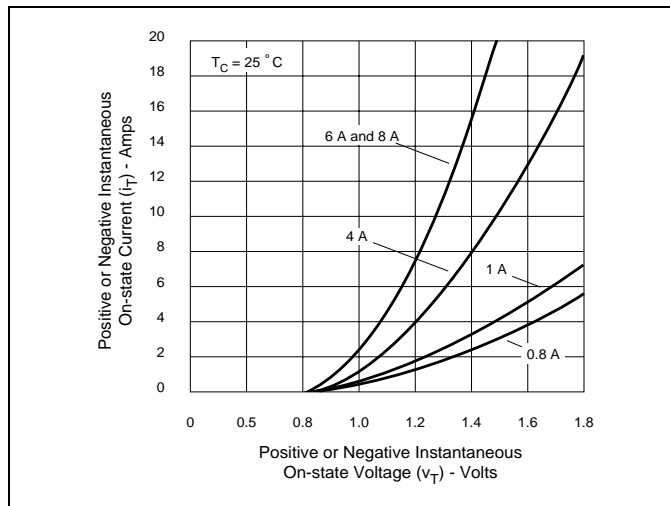

Figure E1.4 On-state Current versus On-state Voltage (Typical)
- (1) For either polarity of MT2 with reference to MT1 terminal
- (2) For either polarity of gate voltage V_{GT} with reference to MT1 terminal
- (3) See Gate Characteristics and Definition of Quadrants.
- (4) See Figure E1.4 for i_T versus v_T .